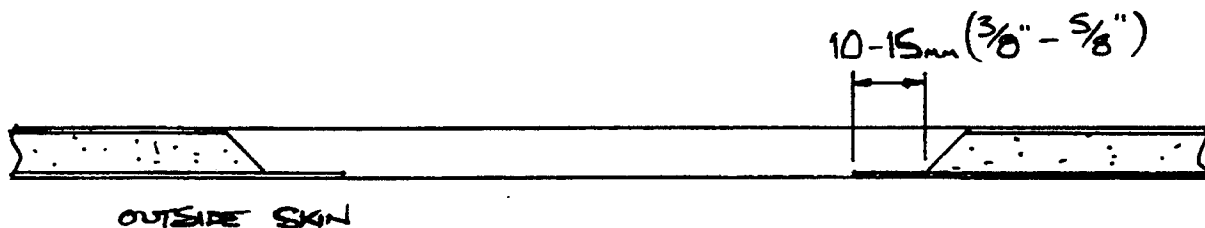

Fig. 3 - Hole chamfer
3. Cut the foam core and inside skin back 10 - 15mm (0.4 - 0.6") from the hole's edge, then chamfer them back at about 45° - (figure 3).